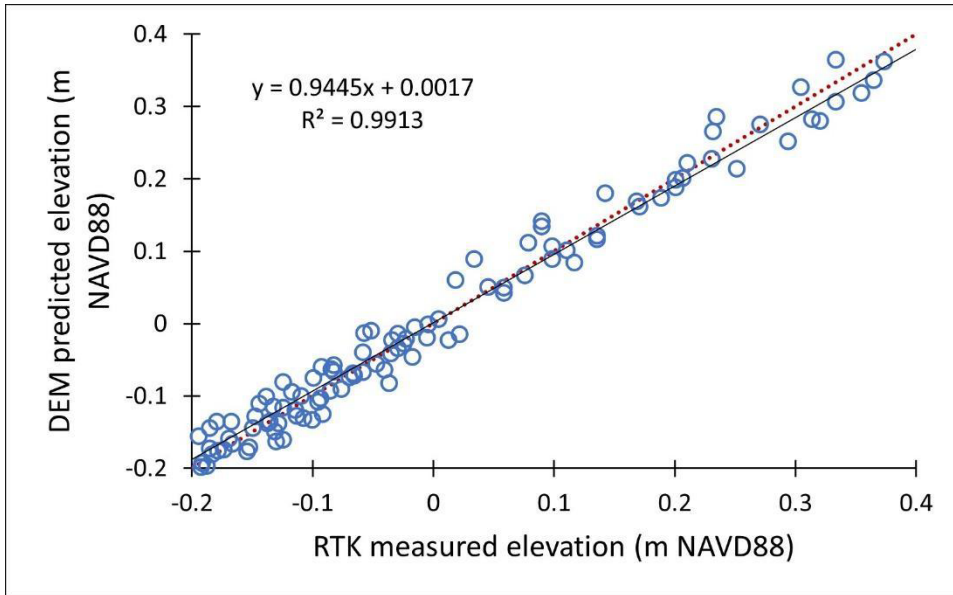

Figure 1. Example observed vs predicted elevation plot. The red dashed line is the 1:1 line.
18. For the regression analysis, plot RTK measured elevation (“elevation”) vs DSM predicted elevation (“rastervalu”). Right click on the points, select “add trendline”, choose linear, and check boxes for “display equation on chart” and “display R-squared value on chart”. Ideally, the slope is ~1 and y-intercept is ~0 (see example in Figure 1).
- a. Generate new versions of Figures 1 and 2 (steps 18 and 20).
- a. Generate new versions of Figures 1 and 2 (steps 18 and 20)